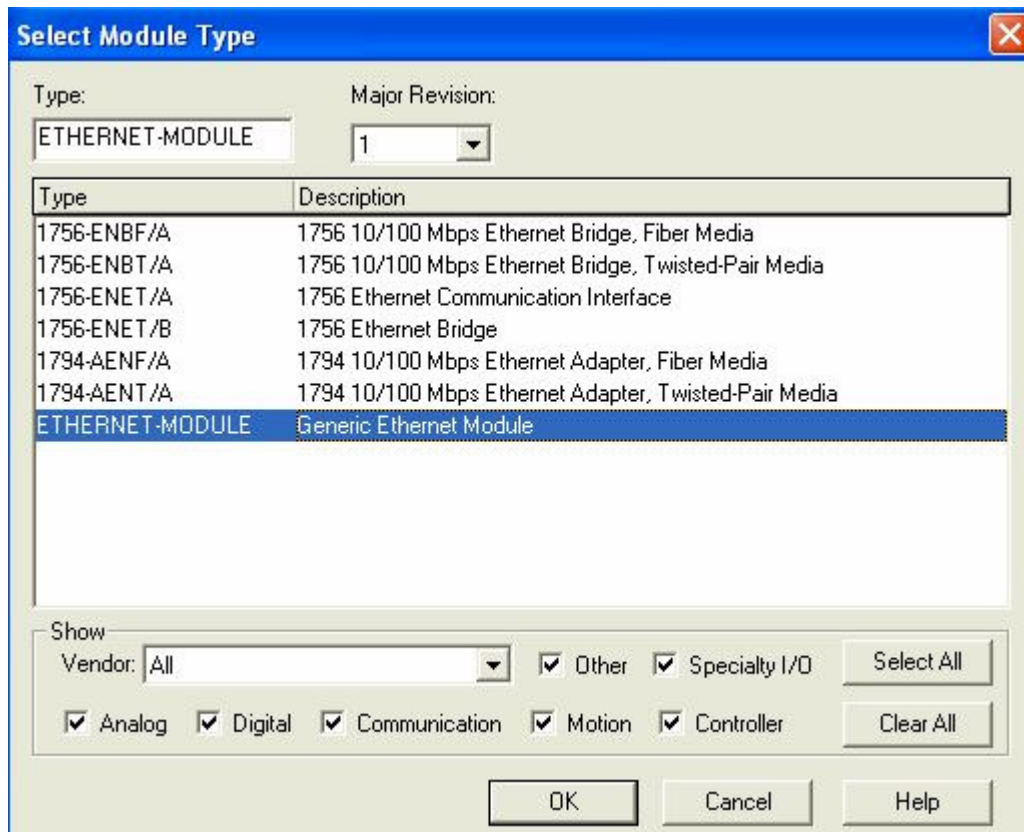

Figure 10. Module Selection
- Under the scanner card, add a new module. Right click on the scanner module and select New Module. Select Generic Ethernet module. Refer to Figure 10